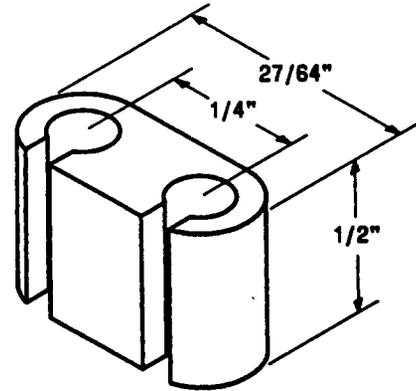

Figure 62—KS-21168 Insulator
6.20 The KS-21168, L1 insulator (Figure 62) is a dual, open-ended, red, flame-retardant plastic insulator used on the wire-wrap terminals of the connectors. The insulator covers two wire-wrap cross-connections to prevent accidental contact.